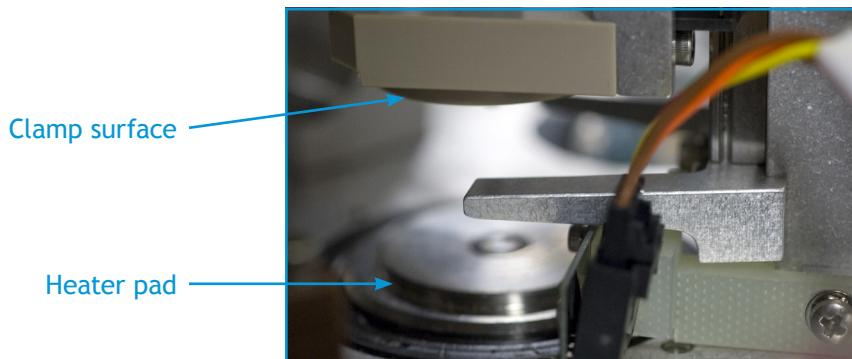

Figure 5-1: Clamp surface and heater pad
1. Using a inspection mirror, check the underside of the clamps located above the processing and collection stage. See Figure 5-1.